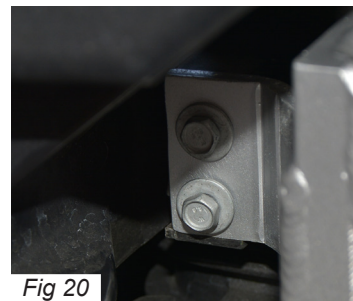

Fig 20
Step 15 Align the mounting brackets on the new PPE cooler with the mounting holes on the radiator and core support and reinstall the three factory bolts that were removed in step 10. Tighten bolts. Fig 20